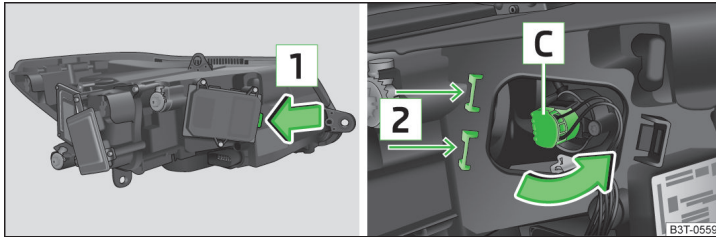

Fig. 202 Headlights with Xenon light: Changing the bulb for the main beam
- Unlock the protective cap in the direction of arrow **1** » Fig. 202 and remove.